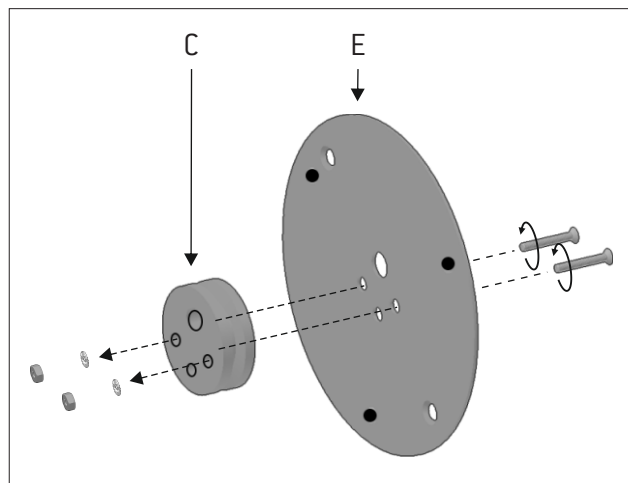

Figure 3
Attach the mounting bracket of the sconce (C) to the mounting bracket decorative disc (E). Figure 3.